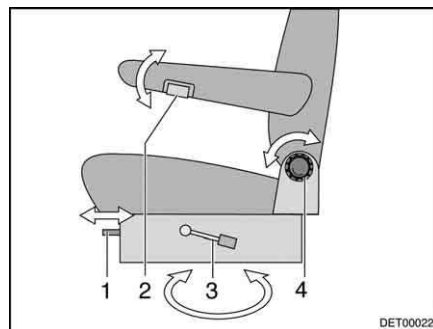

Fig. 23 Driver's seat and front passenger's seat
- Push the lever (Fig. 23,3) to turn the seat. The seat is released from the locking device.